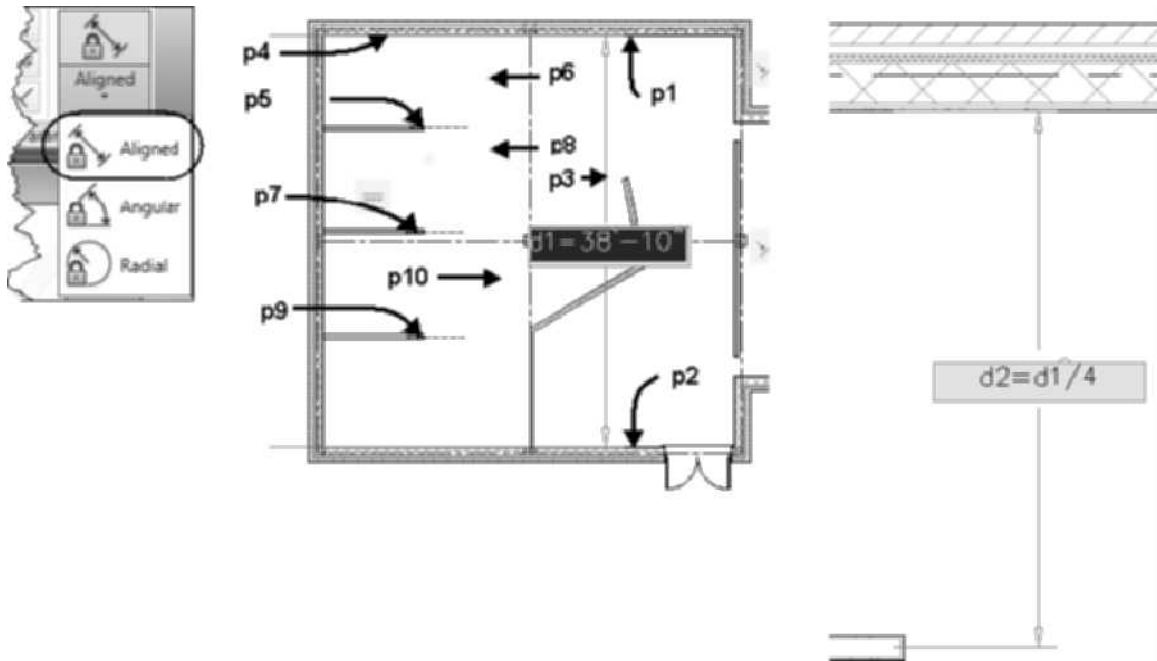

FIGURE 2.62 Placing the Aligned constraints
Select first line: (Select the edge of the wall at **p1** as shown in Figure 2.62.)
12. In this step you will use the Aligned constraint tool to begin the process of using Aligned constraints to position the center of the 3 interior walls shown at left into 4 equal spaces. Select the exterior wall at p1 as shown in Figure 2.62 to display the Wall contextual tab. Choose Aligned command from the Parametric panel. Respond to the workspace prompts as follows:
Select first line: (Select the edge of the wall at p4 as shown in Figure 2.62.)
Select second line to make parallel: (Press Tab to toggle to the center of the wall at p5 as shown in Figure 2.62.)
13. Select the exterior wall at p1 as shown in Figure 2.62 to display the wall contextual tab. Choose Aligned command from the Parametric panel. Respond to the workspace prompts as follows:
Select first line: (Press Tab to toggle to center of wall at p5 as shown in Figure 2.62.)
Select second line to make parallel: (Select center of the wall at p7 as shown in Figure 2.62.)
14. Select the exterior wall at **p1** as shown in Figure 2.62 to display the wall contextual tab. Choose **Aligned** command from the Parametric panel. Respond to the workspace prompts as follows:
Select first line: (Press **Tab** to toggle to center of wall at **p7** as shown in Figure 2.62.)
Select second line to make parallel: (Select center of the wall at **p9** as shown in Figure 2.62.)
Specify dimension line location: (Select a point near **p10** as shown in Figure 2.62 to place the dimension.)